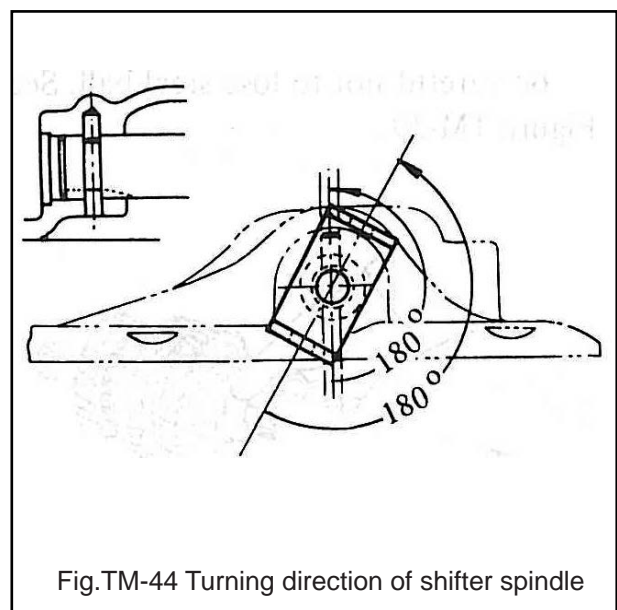

Fig.TM-44 Turning direction of shifter spindle
2.Turn shifter shaft in the direction shown in the below figure and drive out shifter shaft. See Figure TM-44.